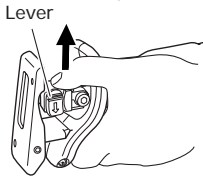

Fig. 5
- (4) When you release the lever, the spring force will return the lever to the correct position automatically. (Fig. 5)